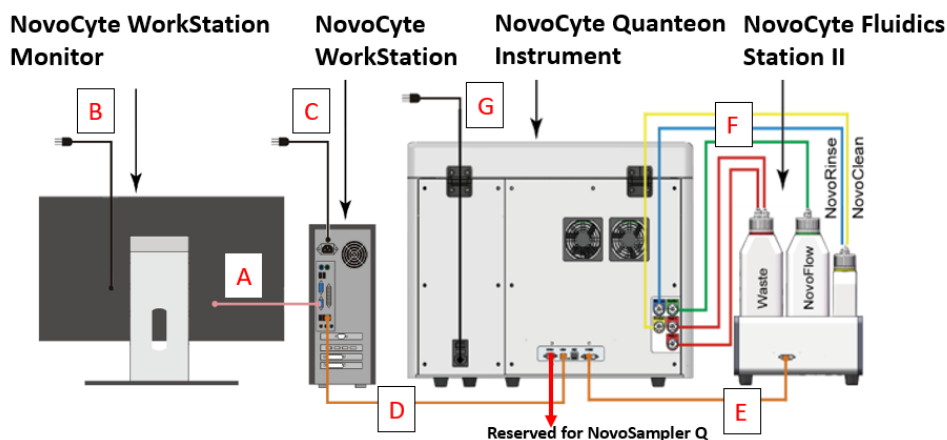

Figure 23. NovoCyte Quanteon flow cytometer System Connection
Figure 23 illustrates the typical connection of the NovoCyte Quanteon flow cytometer system. Please follow the instructions below to install each component.
- 1 Connect the workstation to the monitor using the included DisplayPort to Mini DisplayPort cable (Connection A in Figure 23). Connect the DisplayPort end of the cable to the back of the workstation. Connect the Mini DisplayPort end to the monitor.
- 3 Use the supplied USB cable to connect the NovoCyte Quanteon flow cytometer to the USB port of the NovoCyte workstation (Connection D in Figure 23).
- 4 Connect the workstation and monitor to the power supply (Connections B and C in Figure 23). For more details, please refer to the instructions from the computer and monitor supplier.
NovoCyte Fluidics Station II is connected to the COM 2 port of the NovoCyte Quanteon instrument through the supplied DVI cable (Connection E in Figure 23).
Connect the NovoCyte Quanteon instrument to a power supply (100-240 VAC, 50-60Hz) by connecting one end of the supplied power cord to the power port on the instrument (Connection G in Figure 23), and connect the other end of the power cord to the power supply.